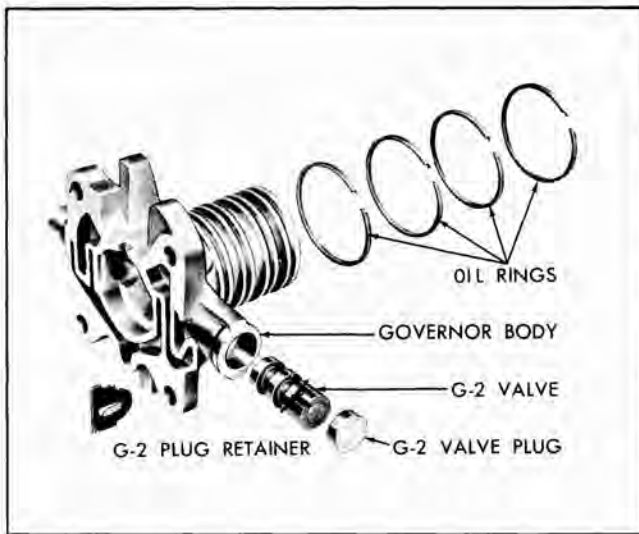

Fig. 98 Governor—Exploded
2. Install G-2 valve (small land first) into governor (Fig. 98).
3. Place the assembled servo components with a $\frac{7}{16}$ " deep socket over the piston pin and "U" shaped spacer against the servo piston into a vise and, aligning pin carefully, compress the assembly to allow the flat washer and snap ring to be installed (Fig. 98).